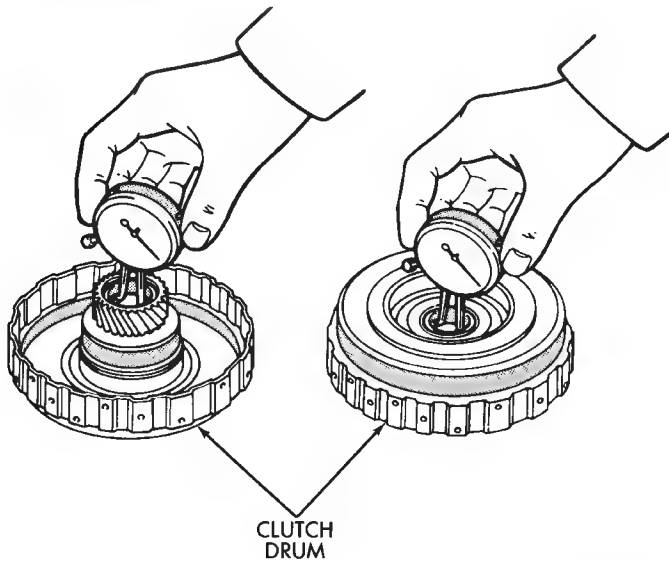

Fig. 18 Checking Clutch Drum Bushings
(21) Check inside diameter of clutch drum bushings with bore gauge or inside micrometer (Fig. 18). Maximum inside diameter is 27.11 mm (1.0673 in.). Replace drum if bushing inside diameter is greater than specified.